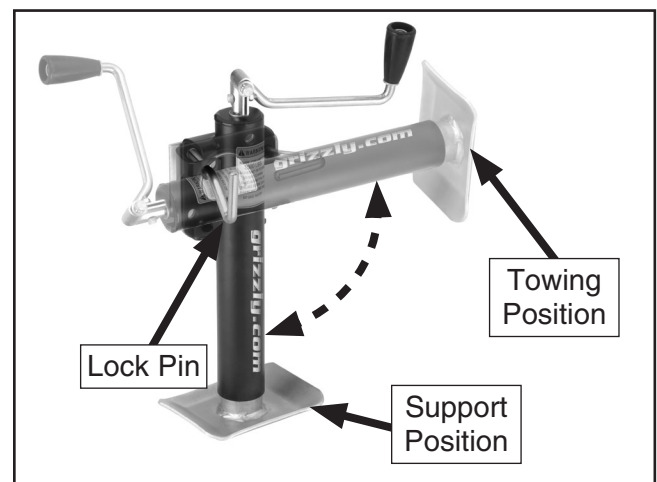

Figure 3. Rotating the jack.
4. Pull the lock pin, then rotate the jack approximately 90° until the lock pin snaps back into place, securing the jack in the towing position (**Figure 3**).